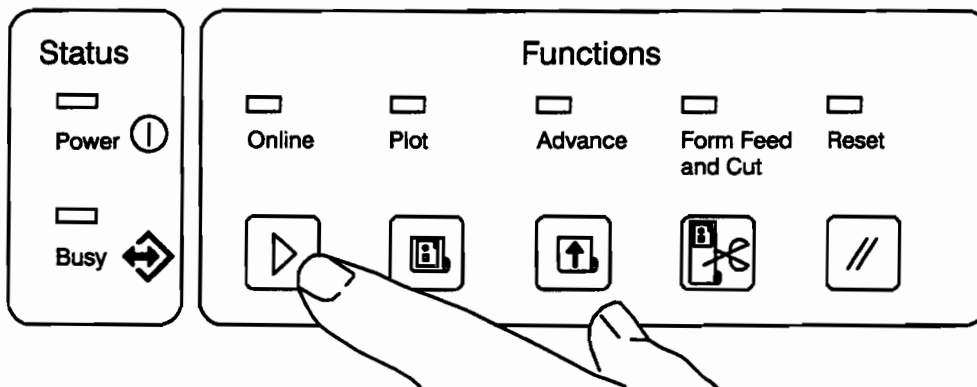

Figure 3-57. Front Panel Center Section
8. Press the **Online** Button to take the plotter offline. The **Online** light goes out. See Figure 3-57.